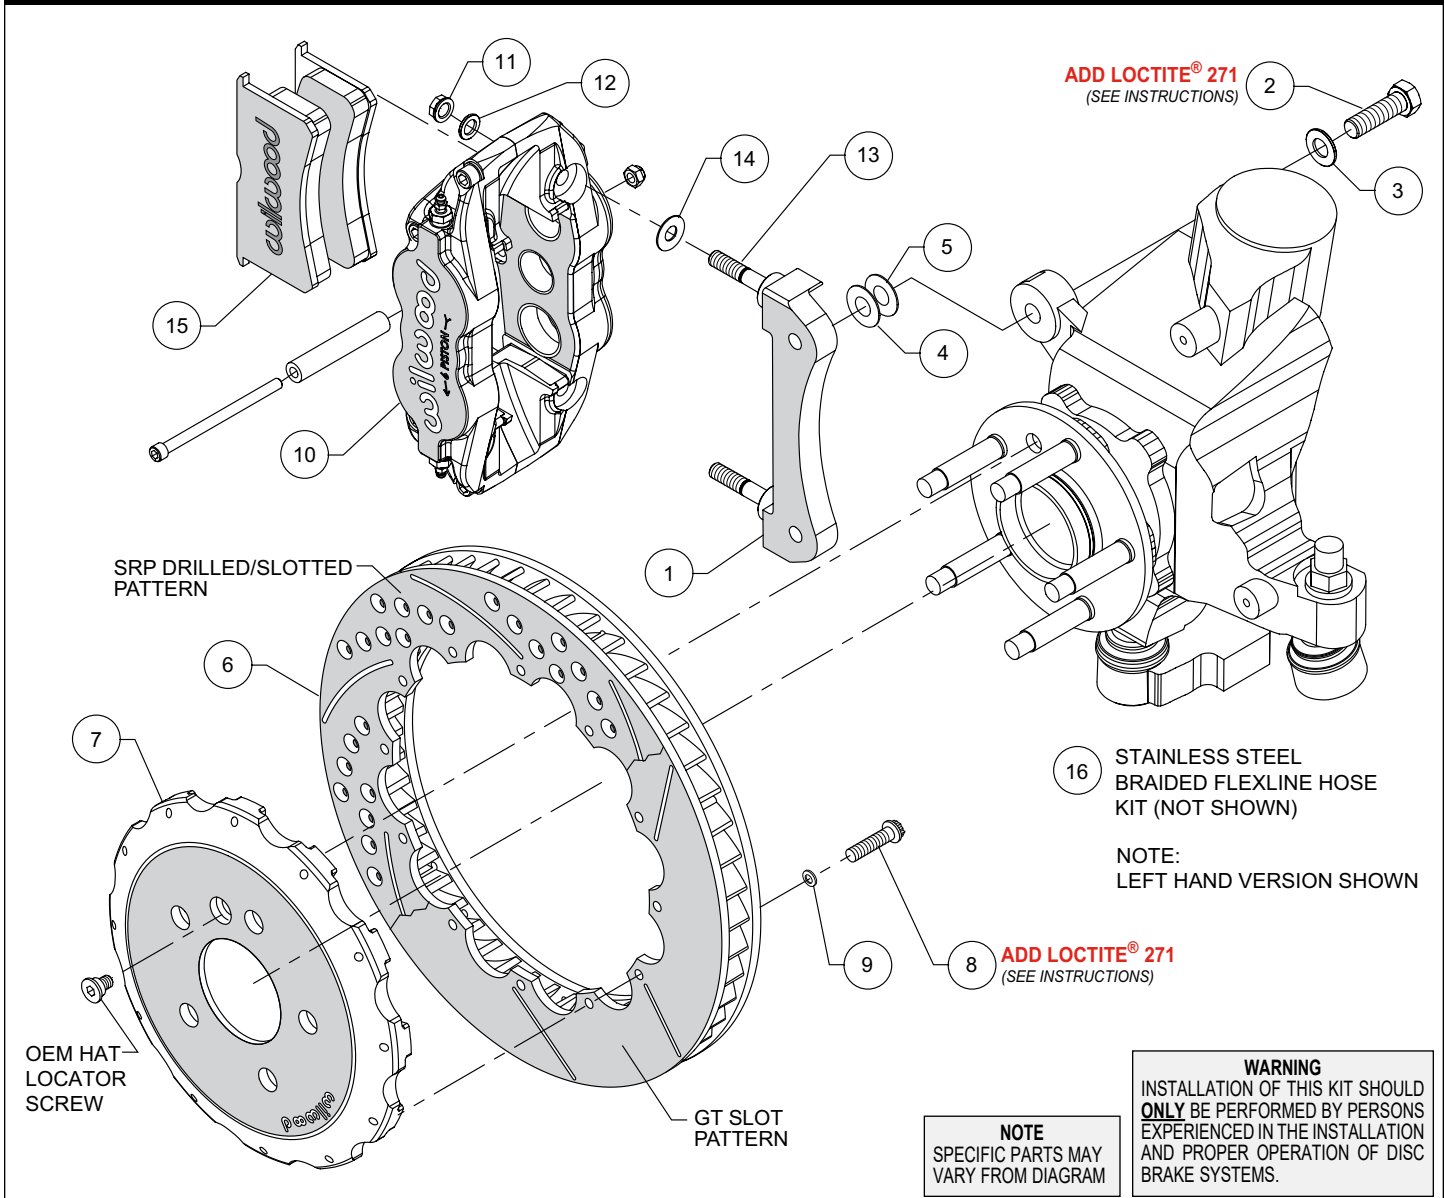
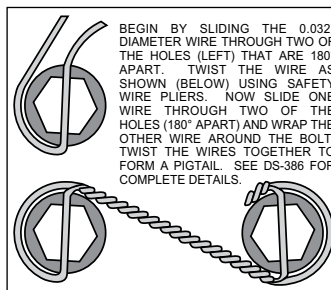

Figure 1. Typical Installation Configuration
Figure 3. Safety Wire Diagram
Assembly Instructions (numbers in parenthesis refer to the parts list and Figure 1 on the preceding pages):
- The caliper mount bracket (1) should initially be installed with clean, dry threads on the mounting bolts. Orient the bracket as shown in Figure 1 and Photo 1, and install using bolts (2) and washers (3). Initially place one .033 thick shim (4) on each bolt between the bracket and upright, Figure 1. Temporarily tighten the mounting bolts. **NOTE: The bracket must fit squarely against the mount bosses on the upright.** Inspect for interference from casting irregularities, machining ridges, burrs, etc. Later, after the caliper alignment has been checked, the mount bolts will be secured using red *Loctite*® 271.
- Orient the rotor (6) and the hat (7) as shown in Figure 1 and Photo 2. Attach rotor to hat using bolts (8) and washers (9). Apply red *Loctite*® 271 to the bolt threads and torque to 155 in-lb using a criss-cross pattern. For an added measure of security, the bolts may be safety wired using standard 0.032 inch diameter stainless steel safety wire as shown in Figure 3. Please refer to Wilwood's data sheet DS-386 (available at www.wilwood.com/Pdf/DataSheets/ds386.pdf) for complete safety wire installation instructions.
- NOTE: This kit contains distinct right and left hand calipers that must be mounted in a specific direction, as described below.** Initially place one .035" thick shim (14) on each stud (13) as shown in Figure 1 and Photo 4. Mount the caliper (10) onto the bracket (1) using lock nuts (11) and washers (12), Figure 1. Ensure that the caliper is mounted so that the largest pistons are at the rotor exit end of the caliper, in relation to the direction of rotor rotation. Temporarily tighten the lock nuts and view the rotor through the top opening of the caliper. The rotor should be centered in the caliper, Photo 5. If not, adjust by adding or subtracting shims (4 and/or 5) between the bracket and the upright. Always use the same amount of shims on each of the two mounting bolts. Once the caliper alignment is correct, remove the bracket mounting bolts (2) one at a time, apply red *Loctite*® 271 to the threads, and torque to 60 ft-lb.